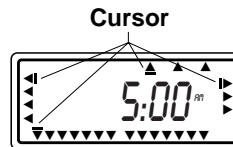

FIGURE 4
- A blinking cursor will appear below the arrow for the year, month, and date when programming [See Figure 4].